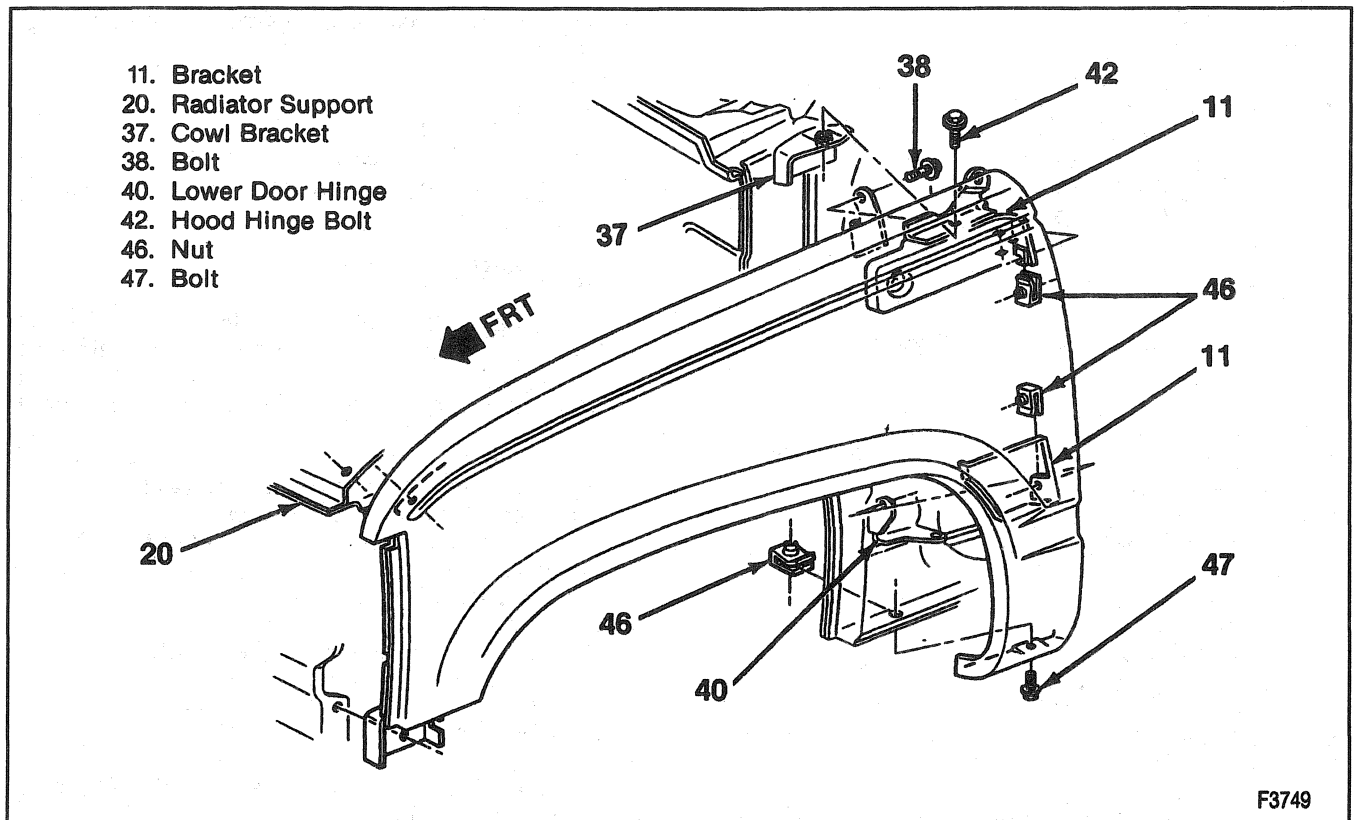

Figure 11—Fender Assembly
15. Bolt holding the fender to the cab assembly (Figure 11).
16. Bolts holding the fender to the door hinges (Figure 11).
5. Bolt and nut from the fender to the cab assembly (Figure 11).
13. Bolt holding the fender to the cab assembly (Figure 11).
- 5. Bolt and nut from the fender to the cab assembly (Figure 11).